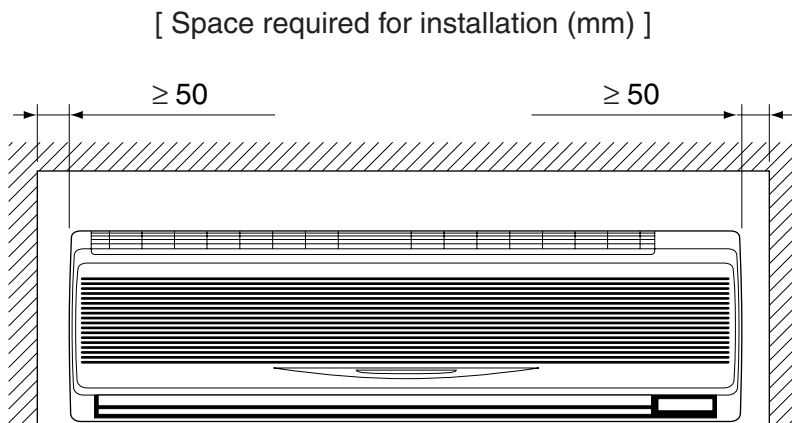
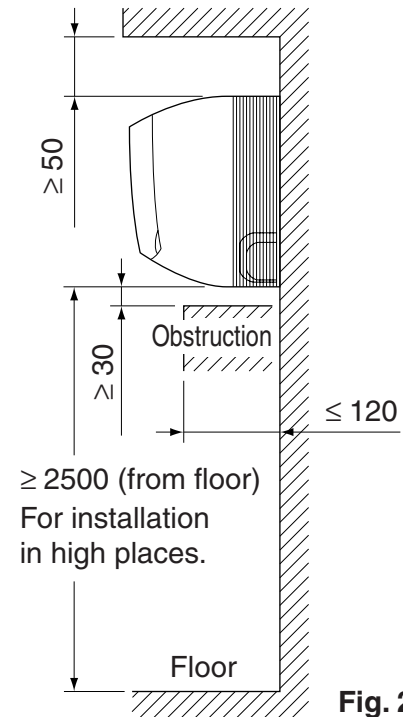

Fig. 1
Fig. 2
**(1) Select an installation site where the following conditions are fulfilled and that meets with your customer’s approval.**
**(Refer to Fig. 1 and Fig. 2)**